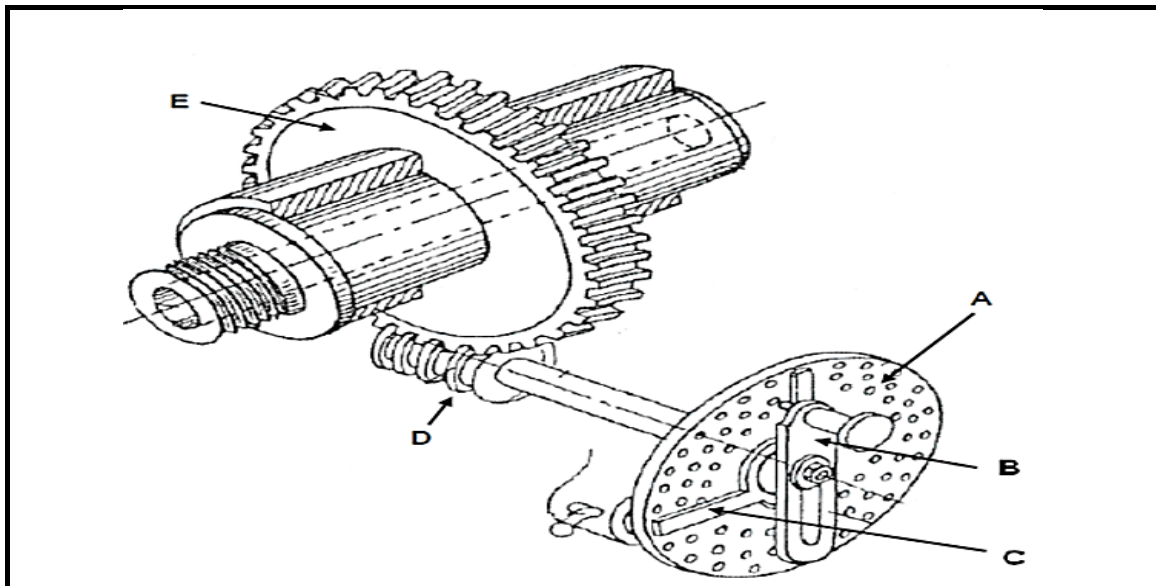

FIGURE 5.4
5.4 FIGURE 5.4 shows a drawing of a dividing head of a milling machine.